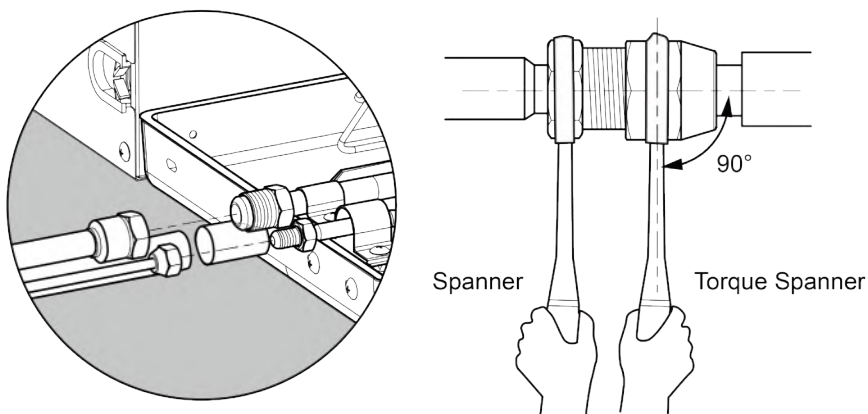

Fig.3.4.1
- (1) Before welding the pipeline sealing cap, please make sure there’s no refrigerant in pipeline. If welding it directly, it may cause unnecessary property damage or personal injury.
- (2) Conform to the following principles during pipe connection: Connection pipeline should be as short as possible. The height difference between indoor and outdoor units should be as short as possible. Keep number of bends as little as possible. The radius of curvature should be as large as possible.
- (3) Weld the connection pipes between indoor and outdoor unit. Please strictly conform to the requirements for welding process. Rosin joints and pin holes are not allowable.
- (4) When laying the pipes, be careful not to deform them. The radius of bending parts should be more than 200mm. The pipes can’t be repeatedly bent or stretched, otherwise the material will get harden. Do not bend or stretch the pipe over three times at the same position.
- (5) Please use a torque wrench to connect union nut on the indoor unit. See the Fig. 3.4.1 as below.